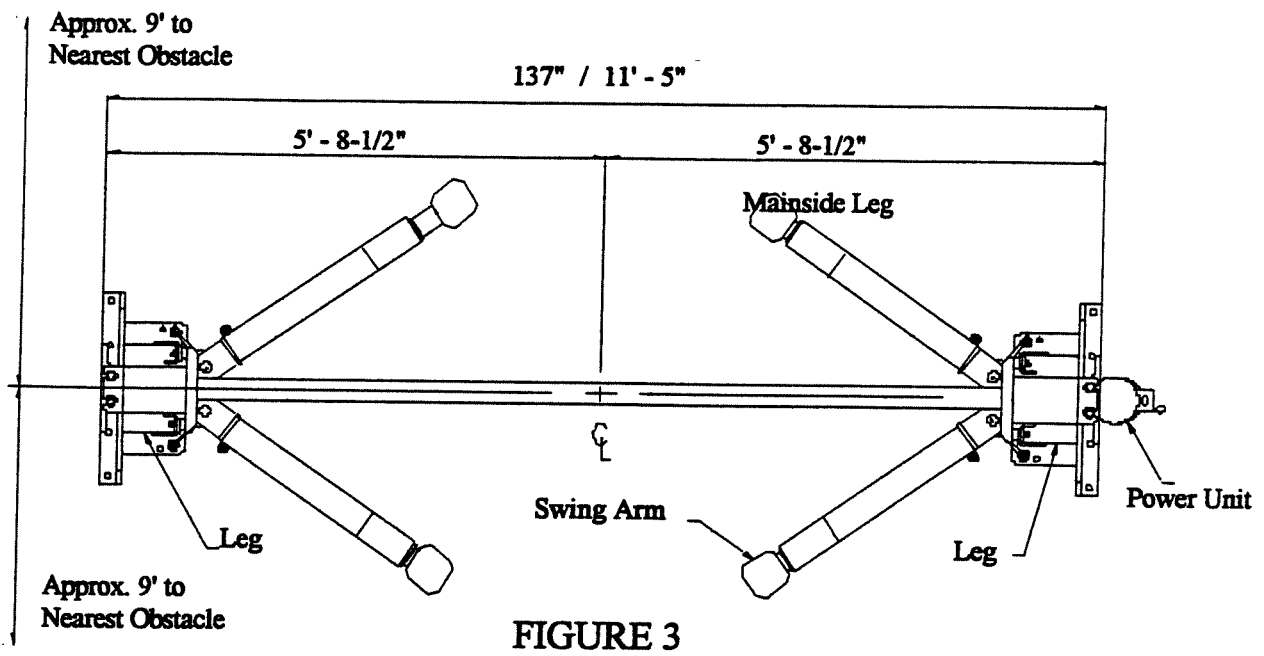

FIGURE 3
4. Figure 3 shows proper placement of the legs in the service bay. The mainside leg has a mounting bracket on its back for the power unit along with two holes in its back near the top. The mainside leg is normally located on the right hand or passenger side of the lift. On this unit the mainside leg can be located on the left side if required.
33. Install the swing arms with the swing arm pins. The pins just drop in, there is no attaching hardware. Refer to Figure 3 for placement of the swing arms.